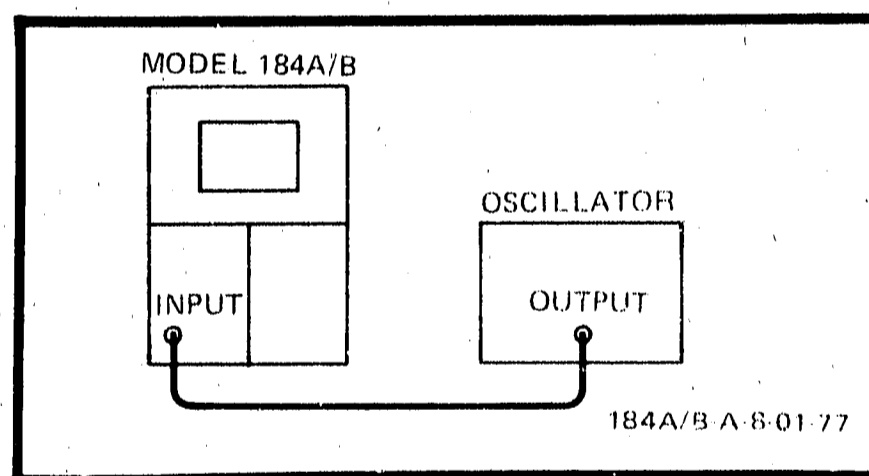

Figure 5-9. Fast Vertical Gain Adjustment
- b. Connect oscillator to input of vertical amplifier (figure 5-9).